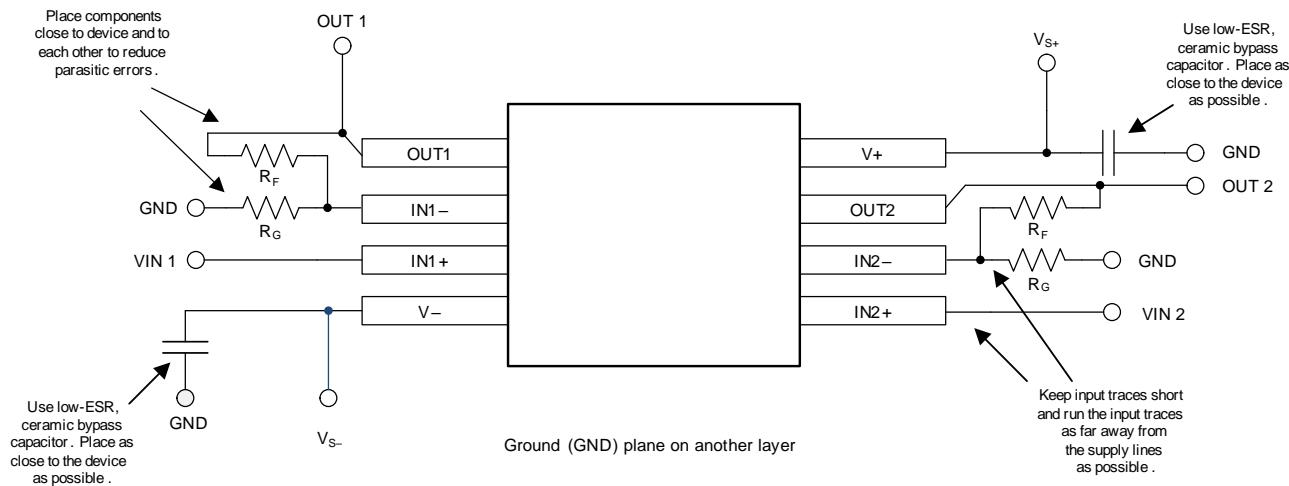

Figure 46. Layout Example
- Place the external components as close to the device as possible. As illustrated in Figure 46, keeping R_F and R_C close to the inverting input minimizes parasitic capacitance on the inverting input.